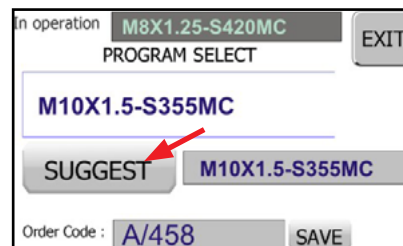

FIG. 6
- Press "Suggest" (Fig. 6). The name of the program that has been suggested will now appear on the box next to the "SUGGEST" button. At the same time it will also be displayed in the control panel of the threading unit.
Other than suggesting a program it's also possible to write an order reference by typing it in the box "Order Code" (Fig. 6) and then confirming it with SAVE